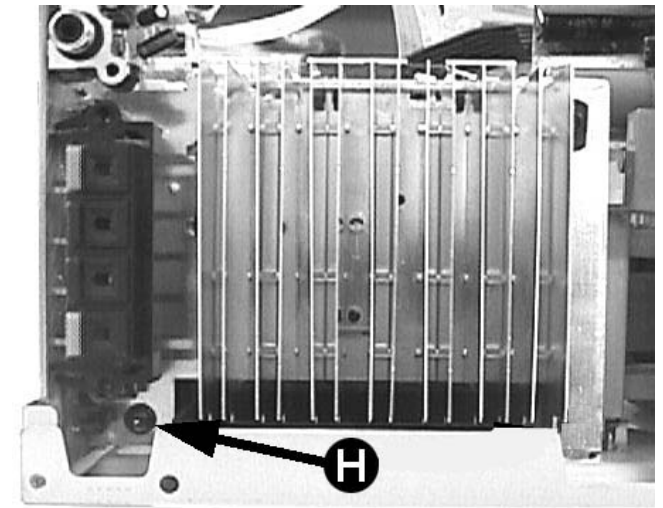

figure 9
- 1) Loosen 1 screw H as shown in figure 9 to remove the Combi board assembly.